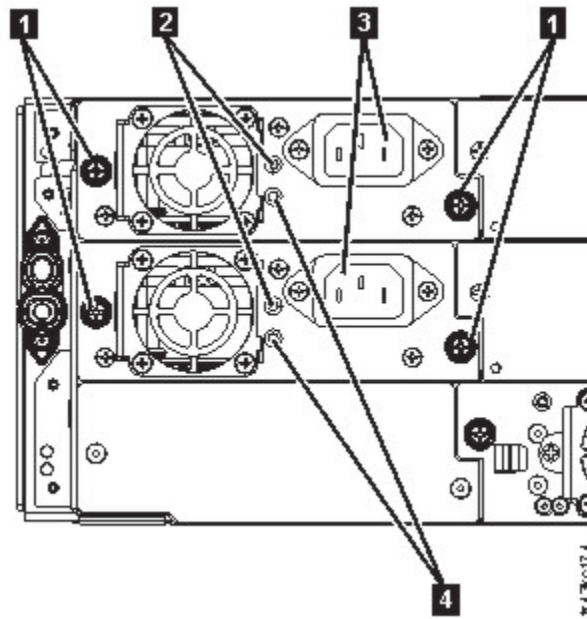

Figure 66. Power supplies
- The white (2 in Figure 66 on page 126) LED is lit.
- The green (4 in Figure 66 on page 126) LED is unlit.